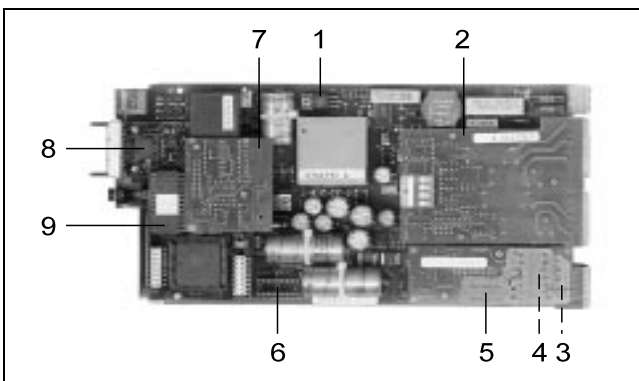

Fig. 21 Modules and components on the main card
6. Pull out the main card through the rear (see fig. 21).
(see fig. 21)
(see Fig. 21)